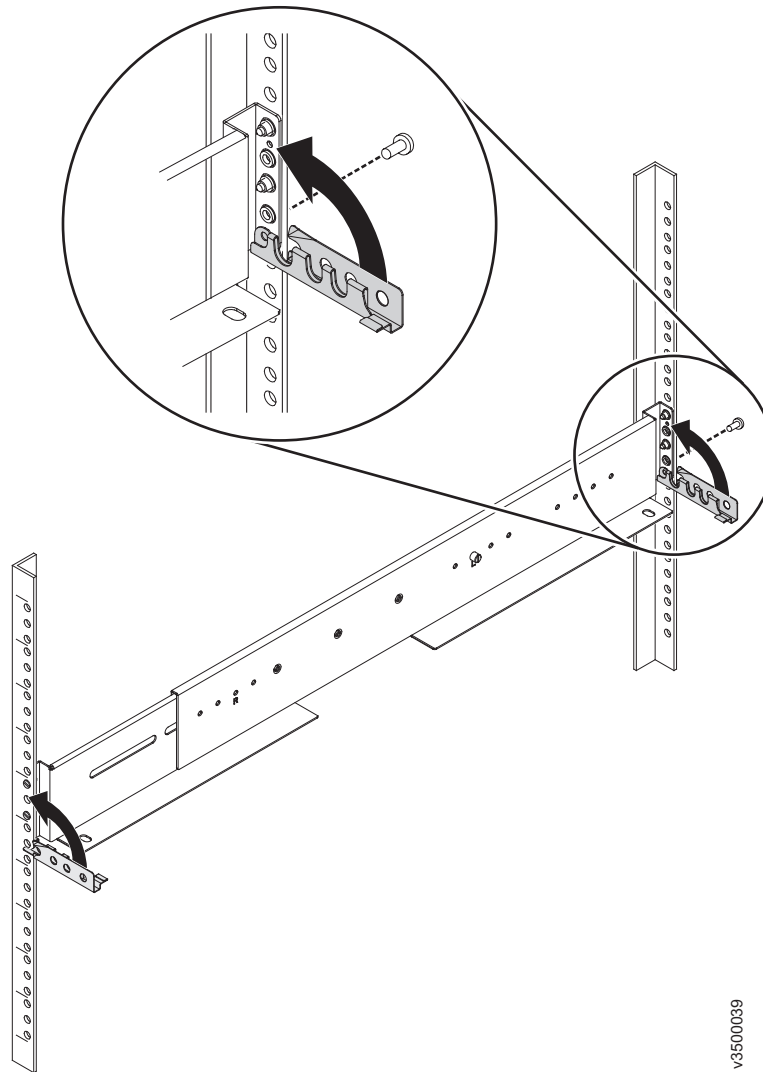

Figure 48. Closing hinge brackets and installing rear screw
7. On the rear of the rail, press the two bracket pins into the holes in the rack flanges and close the rear hinge bracket to secure the rail to the rack cabinet flange (see Figure 48 on page 44).
8. On the front of the rail, press the two bracket pins into the holes in the rack flanges and close the front hinge bracket to secure the rail to the rack cabinet flange (see Figure 48).
9. Secure the rear of the rail to the rear rack flange with an M5 screw (see Figure 48).